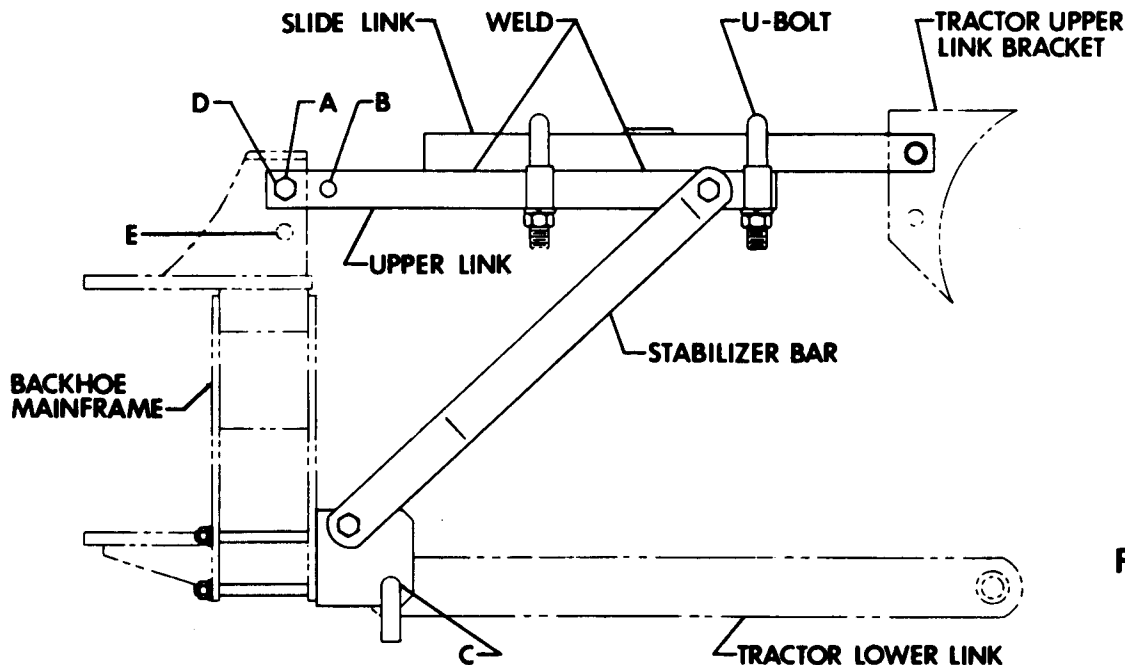

FIG 3
1. Attach lower link mounts (22, 23) to backhoe mainframe using eight bolts, lock-nuts, and flat washers (1, 4, 9) as shown in Fig 3 and 4. Torque to 50 ft-lb.
4. Back tractor close to the backhoe. Connect tractor lower link arms to lower link mounts at position C, Fig 3, using two L-pins (15), two cotter pins (11), and two wire form cotter pins (12), as shown in Fig 4.
5. There are several variations in the method the W401 linkage may be installed. This allows the kit to be used with a variety of approved tractor models. These variations, see Fig 3, are listed as follows:
6. Position upper link assembly with slide link on top, as shown in Fig 3, and rest backhoe end between ears on mainframe. Loosely connect upper end of stabilizer bars (24) to upper link (19) using bolt, nut, lockwasher, and two flat washers (3, 5, 7, 10), as shown in Fig 3 and 4.